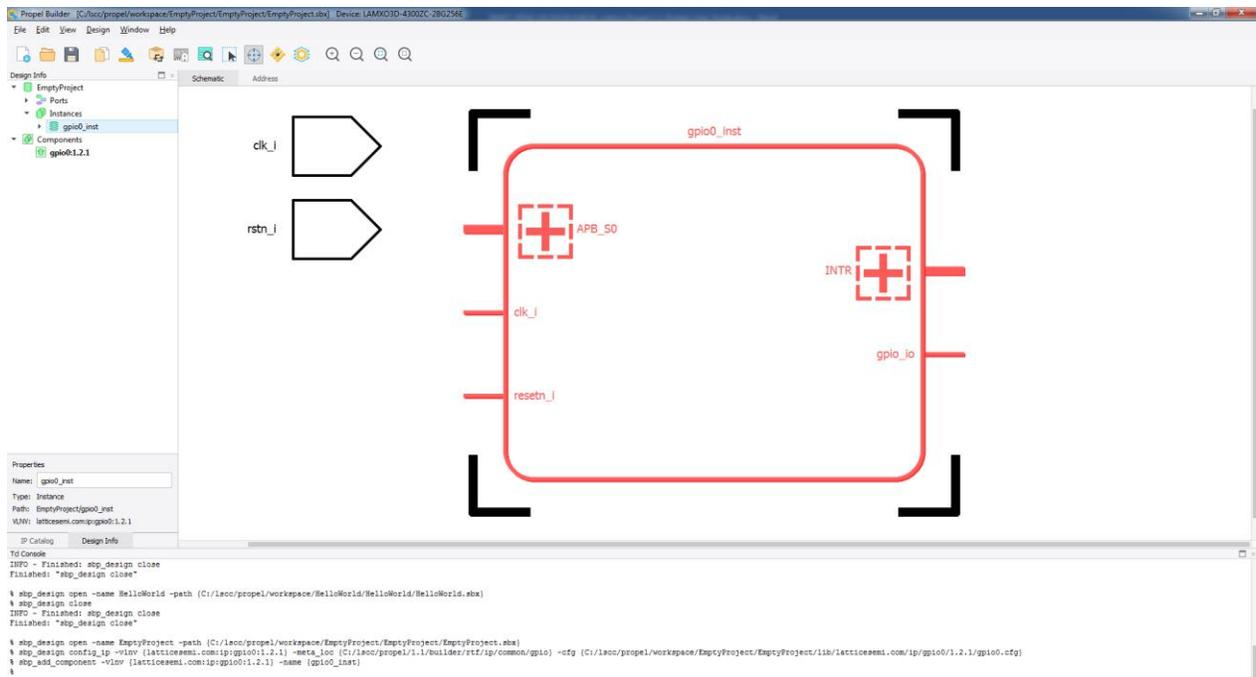

Figure 2.22. Locate Objects
- Select the object in the List view of Design Info. The selected object is in the center of the Schematic View (Figure 2.22).